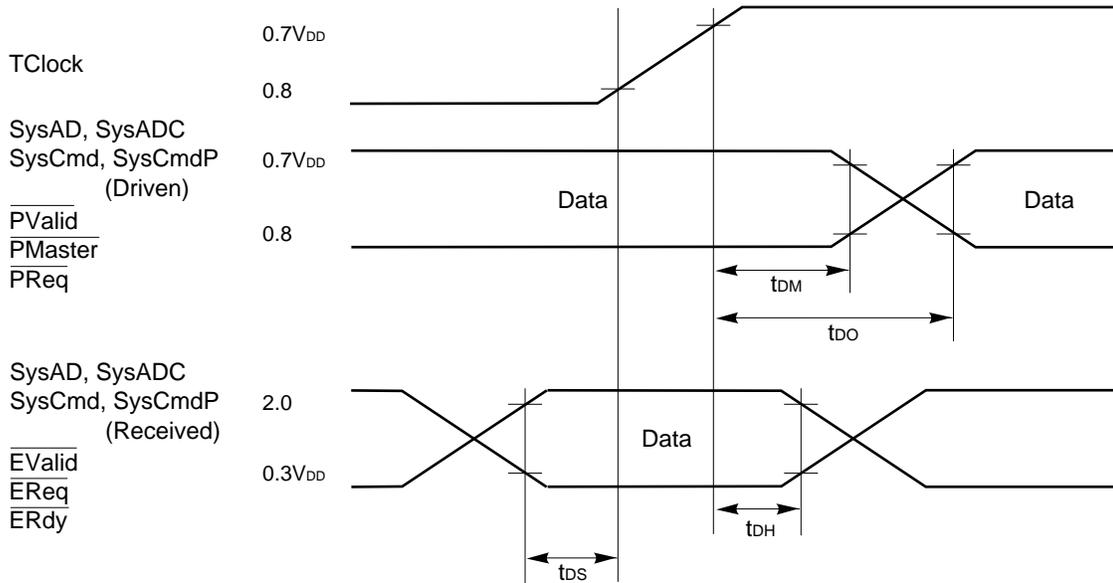

Figure 13-5 System Interface
Notes: (1) See the Figure 13-5 SysAD Data . (2) Capacitive load for all output timings is 40 pF. (3) Data Output, Data Setup, and Data Hold apply to all logic signals driven out of or driven into the Vr4100 on the system interface. Clocks are specified separately. (4) TClock.
**Notes:** (1) See the *Figure 13-5 SysAD Data*.
(2) Capacitive load for all output timings is 40 pF.
(3) Data Output, Data Setup, and Data Hold apply to all logic signals driven out of or driven into the VR4100 on the system interface. Clocks are specified separately.
(4) TClock.